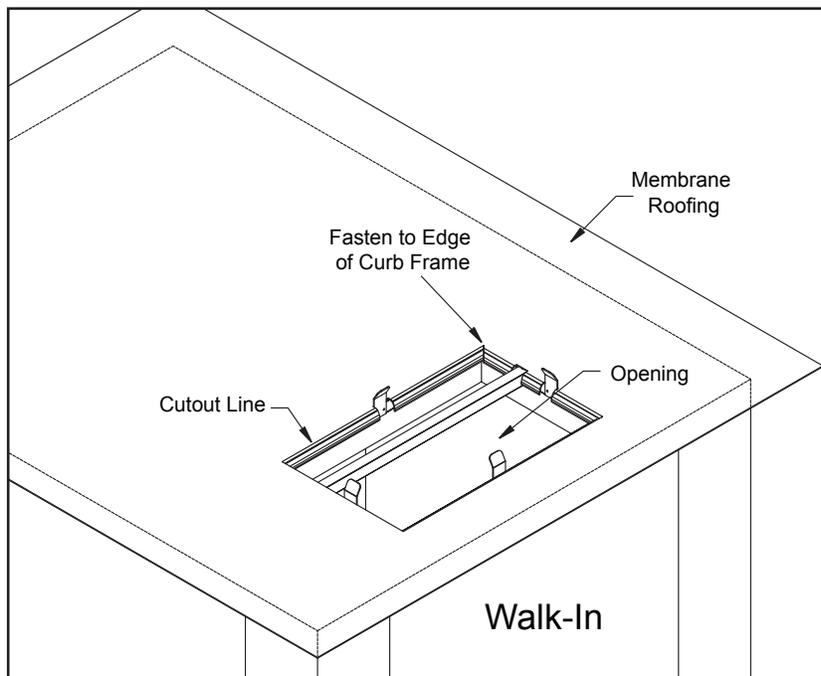

Figure 2
3. Lay the membrane roofing material over the walk-in ceiling sections and curb leaving a six inch overhang on all four sides of the walk-in. Using an utility knife, cut a hole in the membrane roof approximately 1-1/2" in from the edge of the opening. (The resulting hole in the membrane will be smaller than the ceiling opening). Fold the 1-1/2" membrane flaps into the opening, notching the membrane around the locators and divider. Use either sheet metal screws, caulk, glue, etc. to fasten the membrane roofing material to the inside edge of the curb frame. Refer to Figure 2.